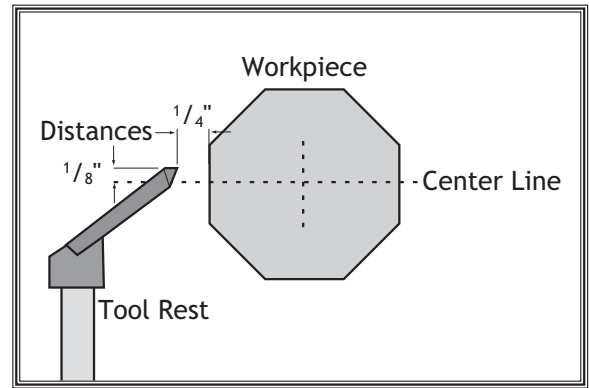

Figure 29. Relative position of tool rest to workpiece.
11. Position the tool rest approximately $\frac{1}{4}$ " away from the workpiece, and approximately $\frac{1}{8}$ " above the workpiece center line (see **Figure 29**).